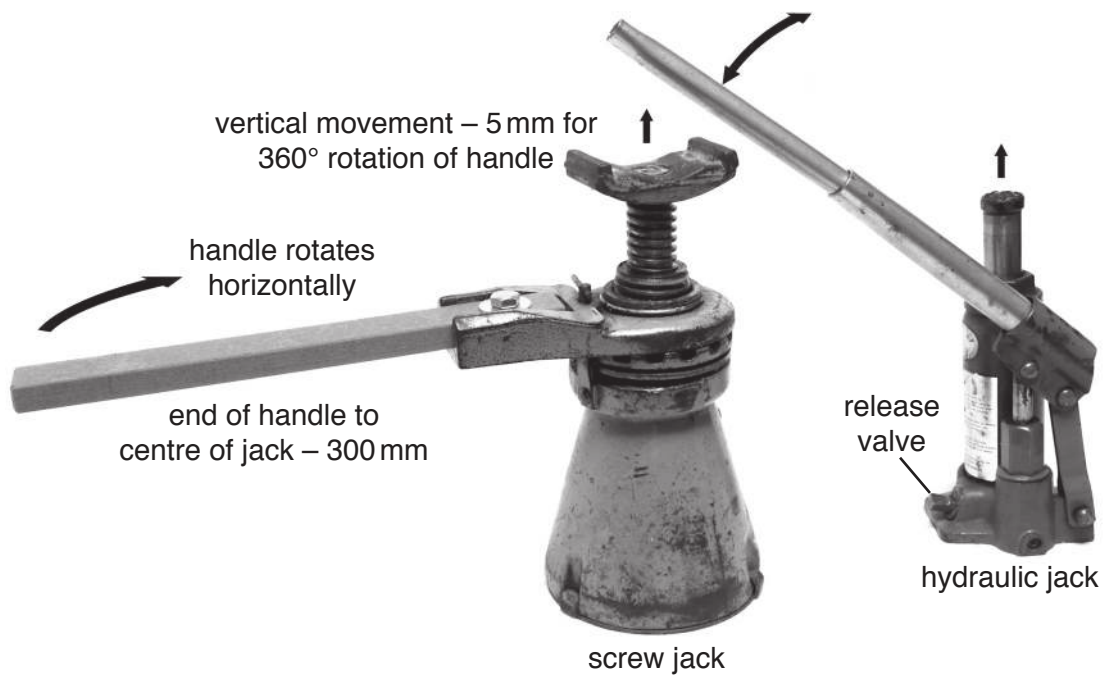

Fig. 12
- (b) Two types of jack are shown in Fig. 12.